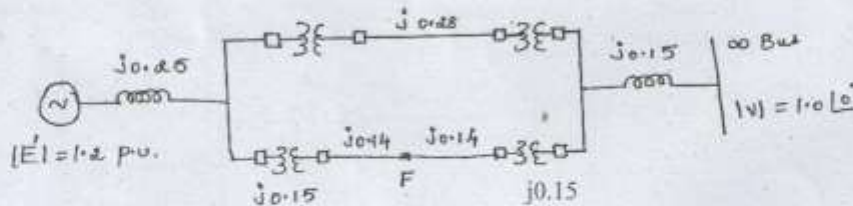

Fig.15.a.
15. (a) (i) Discuss the methods by which transient stability can be improved. (6)
- (ii) Find the critical clearing angle of the system shown in Fig. 15.a., for a 3 phase fault at the point 'F'. The generator is delivering 1.0 pu. power under pre-fault conditions. (10)